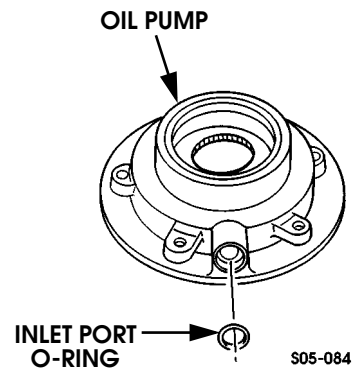

Figure 5-92: Oil Pump O-ring Location
10. Remove O-ring from oil pump inlet port (Figure 5-92).